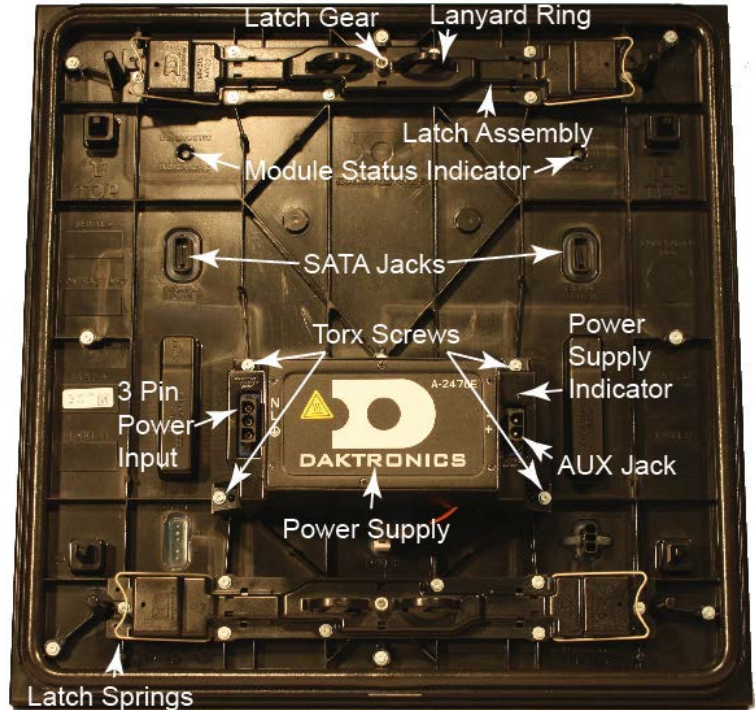

Figure 10: Labeled Module Back
6. Disconnect the power cable from the back of the power supply and the SATA cables from the back of the module. Refer to **Figure 10**.
4. Disconnect the SATA cables from the module and the power cable from the power supply. Refer to **Figure 10**.